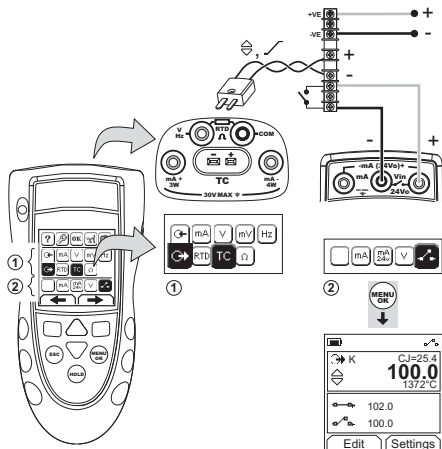

Figure 12: Example Configuration - Switch Test
1. Connect the instrument (Figure 12) and, if necessary, adjust the Set Up (Table 1).